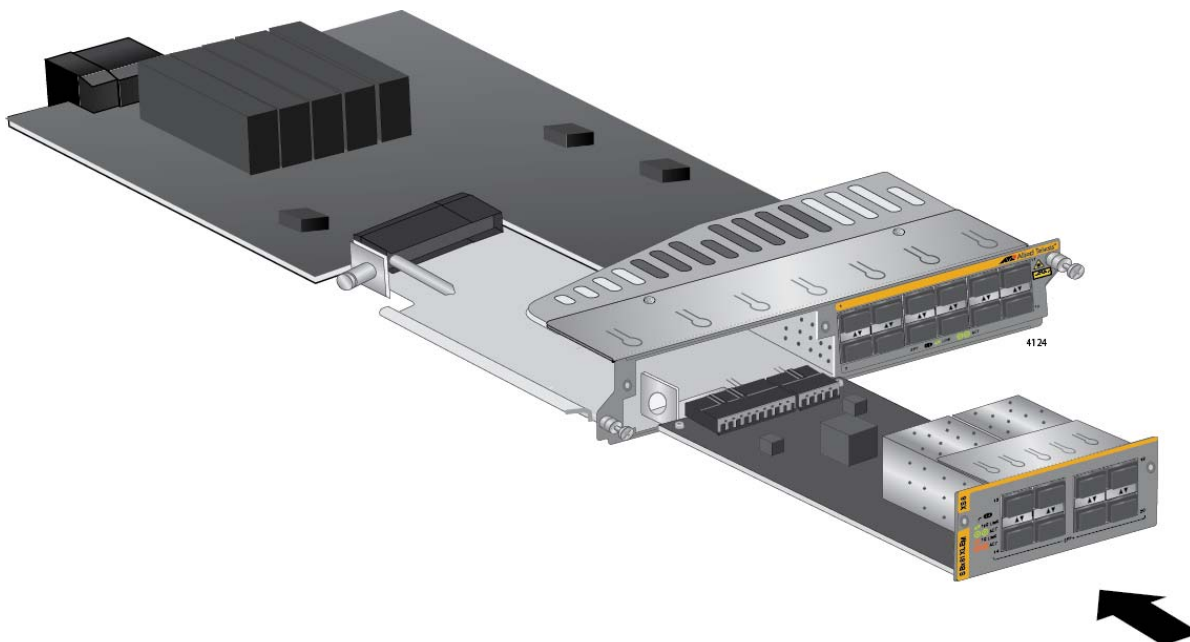

Figure 92. Sliding the Expansion Module into the AT-SBx81XLEM Line Card
- Carefully align the expansion module in the slot, as shown in Figure 92, and slide it into the line card.